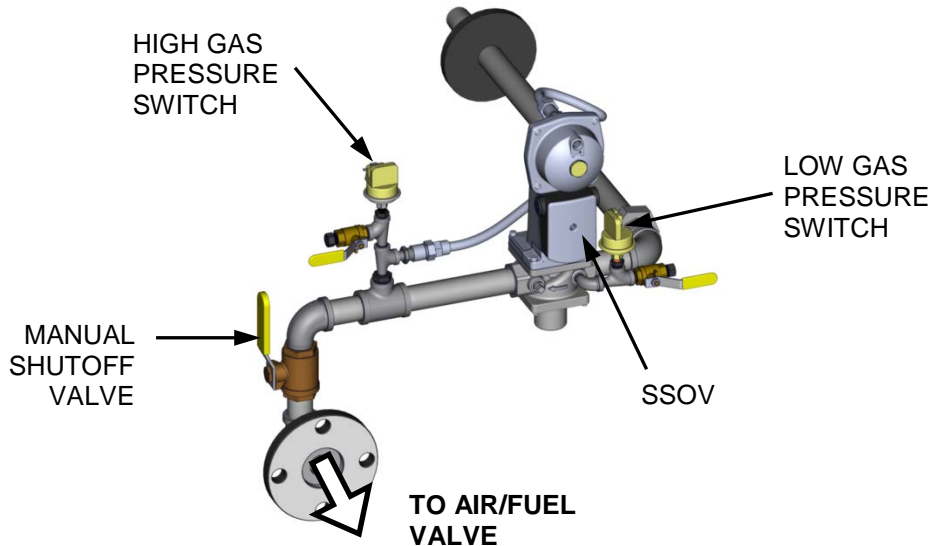

Figure 5-3. Manual Gas Shut-Off Valve Location (INN1060 Gas Train)
3. Close the manual gas shutoff valve located between the Safety Shut-Off Valve (SSOV) and the Air/Fuel Valve (see Figure 5-3).
8. Once flame is proven, close the 1" manual gas shut-off valve located between the SSOV (Figure 5-3) and the Air/Fuel Valve.